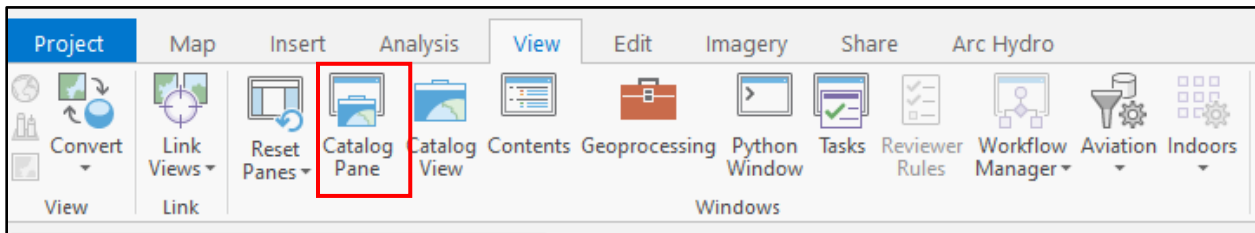

Figure 5. View pane in ArcGIS Pro.
- In the View pane, click on Catalog Pane (Figure 5, below).